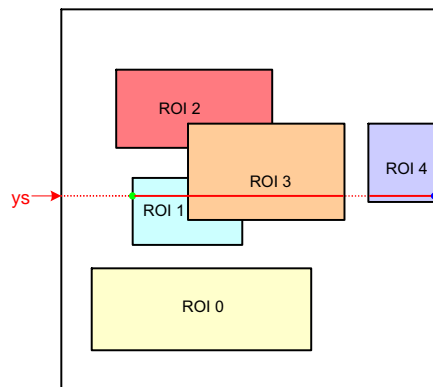

Figure 28. Scanning the Image Array with Five Windows
Figure 28 illustrates a practical example of a configuration with five windows. The current position of the read pointer (y_s) is indicated by a red line crossing the image array. For this position of the read pointer, three windows need to be read out. The initial start position for the x-kernel pointer is the x-start configuration of ROI1. Kernels are scanned up to the ROI3 x-end position. From there, the x-pointer jumps to the next window, which is ROI4 in this illustration. When reaching ROI4's x-end position, the read pointer is incremented to the next line and x_s is reinitialized to the starting position of ROI1.
- The read pointer is not necessarily incremented by one, but depending on the configuration, it can jump in y-direction. In Figure 28, this is the case when reaching the end of ROI0 where the read pointer jumps to the y-start position of ROI1.